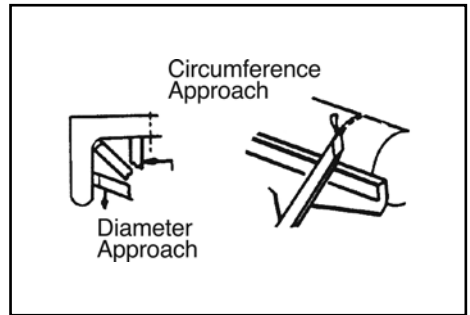

FIG. 14
10.4 KNOWING WHEN TO CUT AND WHEN TO SCRAPE – FIG. 14
There are two different approaches to the work when turning. The first is towards a circumference of the workpiece (e.g. When turning down the outer surface of a cylinder or the inner wall of a hollow round box). Using this method, the surface being turned travels under the edge of the chisel like an endless belt. The second approach is towards the diameter of the workpiece (as when turning the face when faceplate turning, or the side of a large shoulder when spindle turning) using this method the surface being turned rotates like a disc under the chisel edge. Some jobs will require both methods being used (Fig.14).